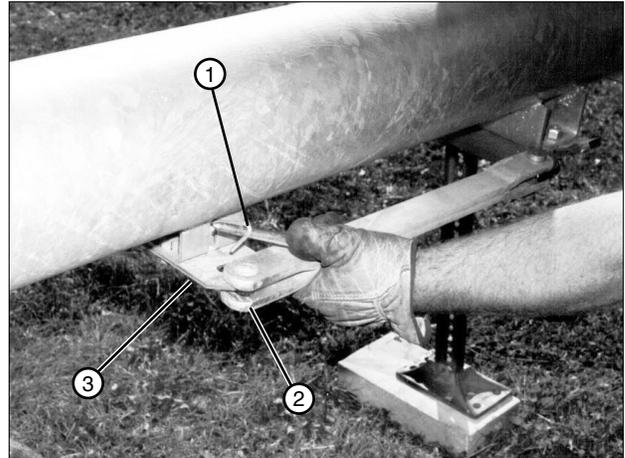

Figure 29-1 1. Carrier Spring 2. Tow Link Bar 3. Tow Link Carrier
8. Lift the carrier spring and release the tow link bar from the tow link carrier. See figure 29-1.